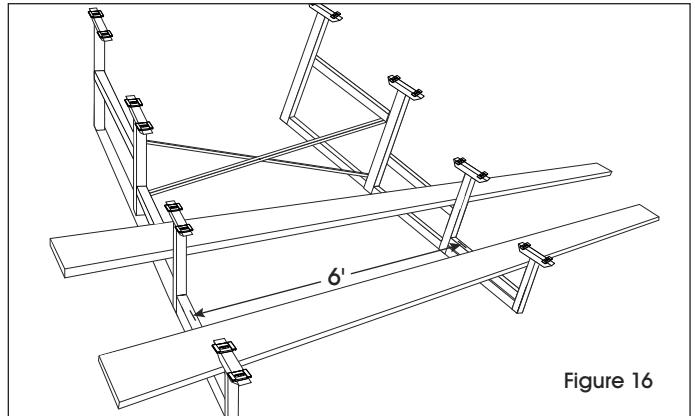

Figure 16
9. Confirm the frame is straight and square. Center of the left foot plank frame to center of the right foot plank frame should measure 6' on center. (See Figure 16)